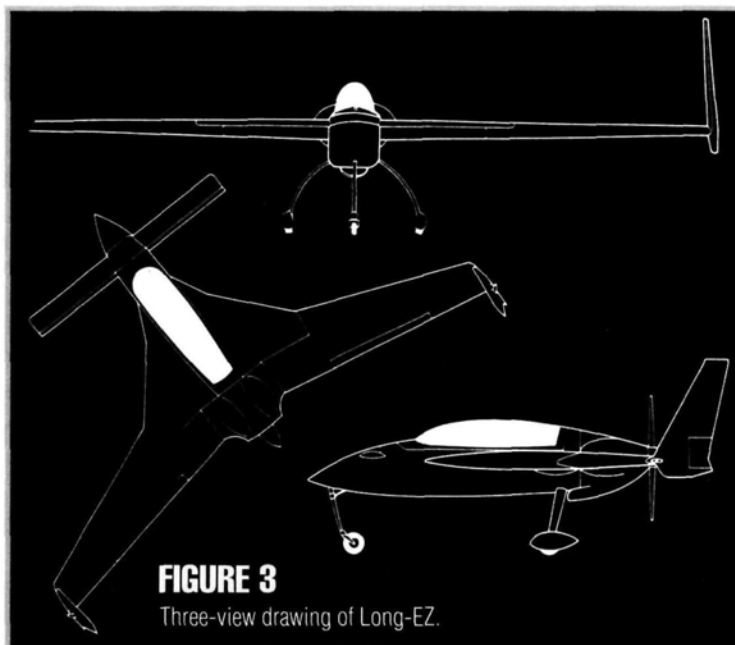

FIGURE 3
• **Rutan's Long-EZ (Figure 3).** The sweptback aft wing permits the PU to move forward, shortens the fuselage and permits the CU (pilot) to move aft, close to the CG. The big wing-root strakes house the fuel on the CG. The wingtip vertical surfaces have reasonable moment arms for good directional control, but their location increases the